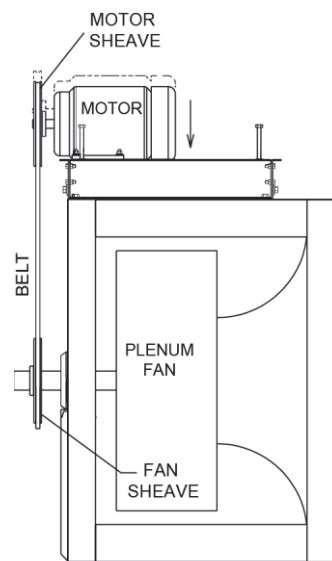

FIGURE 42 - MOTOR BASE LOWERED
4. Continue to lower both ends of the base until the belts can be removed as shown in *Figure 42 on page 55*.
10. If the sheaves are still misaligned as shown in *Figure 42 on page 55*, make sure the belt tension is correct, then secure the mounting hardware on the drive side.
11. If the sheaves are still misaligned as shown in *Figure 42 on page 55*, make sure the belt tension is correct, then lower the drive side of the base to remove to remove the belt tension.